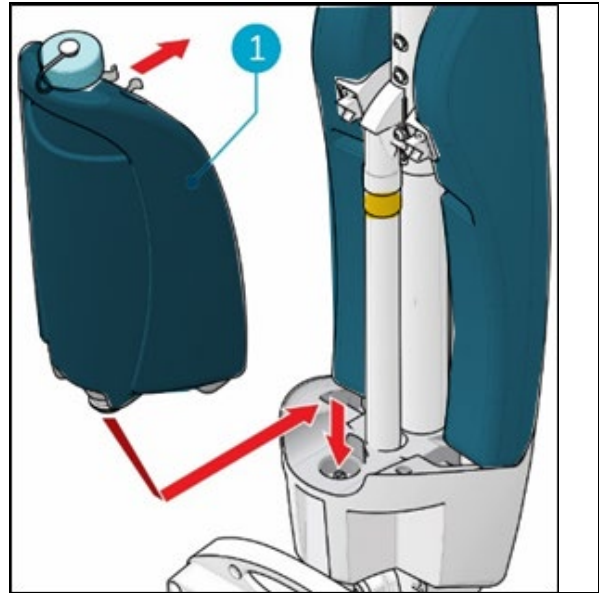

Figure 15
5. Put the tank on the i-mop® XL with the valve first (Figure 15, pos. 1)